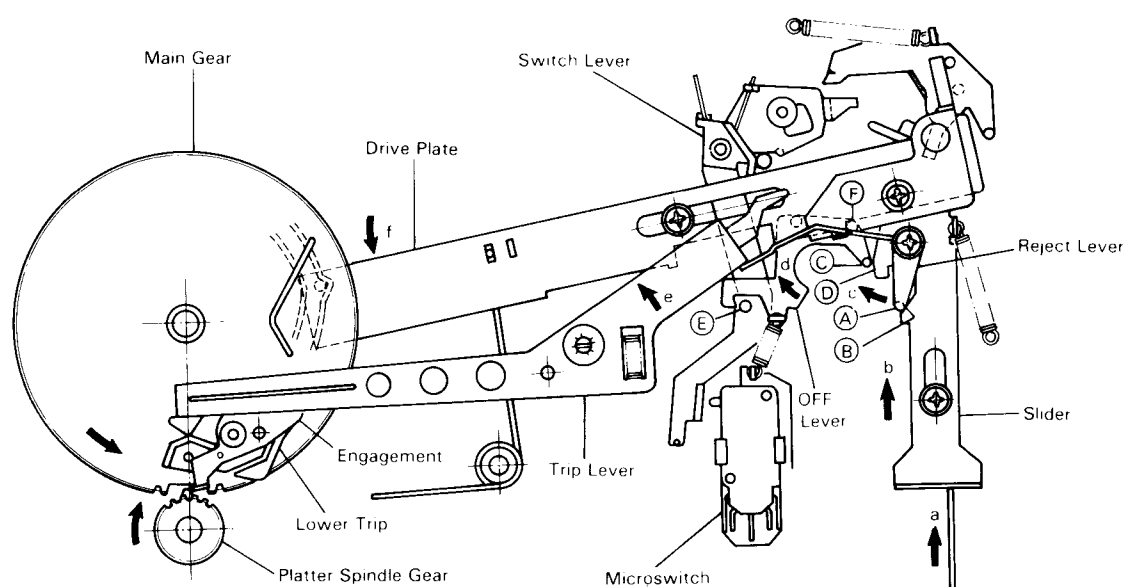

Fig. 2
of the switch lever. Thereby, the microswitch switches ON to rotate the platter. On the other hand, as cam (B) of the slider pushes part (A) of the reject lever in direction "c", the trip lever is driven in direction "e". The trip lever drives the engagement in direction "f". As a result, the platter spindle gear engages with the main gear and the "change cycle" starts. Fig. 2 shows the state at the end of the above operation.
Operation (See Fig. 2).